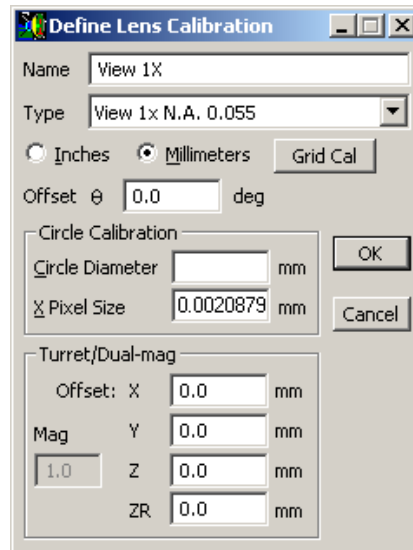

Figure 8-6 Define Lens Calibration Window
5. Click **Modify** to display the Define Lens Calibration window (see Figure 8-6).